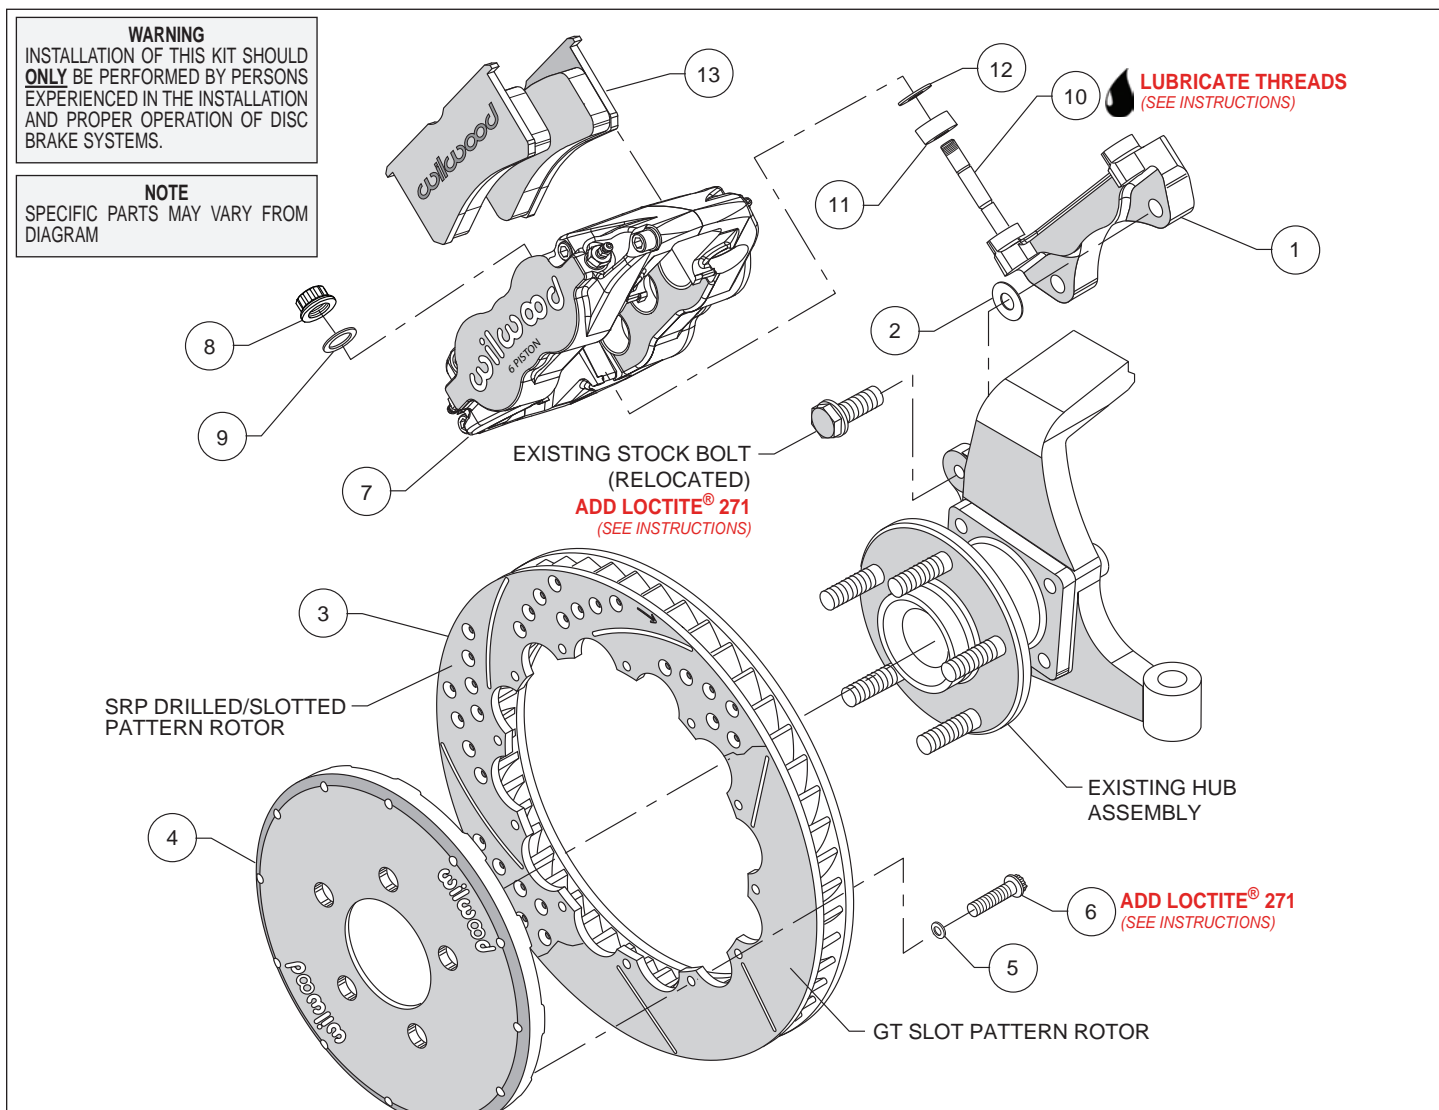

Figure 1. Typical Installation Configuration
- The caliper mount bracket assembly (1) should be installed first with clean, dry threads on the mounting bolts. Install the bracket using the original caliper mount bolts. The bolts will now pass through the spindle from the opposite direction that they were removed as shown in Figure 1 and Photo 1. Use one thin shim (2) between the bracket and spindle during initial trial fitting, Figure 1 and Photo 2. The bracket must tighten squarely against the inboard side of the caliper mount bosses on the spindle body, Photo 3. Inspect for interference from casting irregularities, machining ridges, burrs, etc. Later, after the caliper, pad, and rotor alignment have been checked, and any necessary shims have been put in place, the mount bolts should be coated with red *Loctite*[®] 271 and torqued to 65 ft-lbs.
- Orient the rotor (3) and hat (4) as shown in Figure 1 and Photo 4. Attach the rotor to the hat with bolts (6) and washers (5). Be sure all bolts thread in smoothly and are snug. Using an alternating sequence, apply red *Loctite*[®] 271 to the threads and torque bolts to 155 **in-lbs**. For an added measure of security, the bolts may be safety wired using standard 0.032 inch diameter stainless steel safety wire as shown in Figure 3. Please refer to Wilwood's data sheet DS-386 (available at www.wilwood.com/Pdf/DataSheets/ds386.pdf) for complete safety wire installation instructions.
- NOTE:** This kit contains distinct right and left hand calipers that must be mounted in a specific direction, as described below. Lubricate the caliper mounting studs (10) with lightweight oil. Initially place one .035" thick shim (12) and spacer (11) on each stud as shown in Figure 1 and Photo 6. Mount the caliper (7) onto the bracket (1) using lock nuts (8) and washers (9), Figure 1 and Photo 7. Ensure that the caliper is mounted so that the largest pistons are at the rotor exit end of the caliper, in relation to the direction of rotor rotation. Temporarily tighten the lock nuts and view the rotor through the top opening of the caliper. The rotor should be centered in the caliper. If not, adjust by adding or subtracting shims (2) between the bracket and the upright. Always use the same amount of shims on each of the two mounting bolts. Once the caliper alignment is correct, remove the bracket mounting bolts one at a time, apply red *Loctite*[®] 271 to the threads, and torque to manufacturer's specifications.